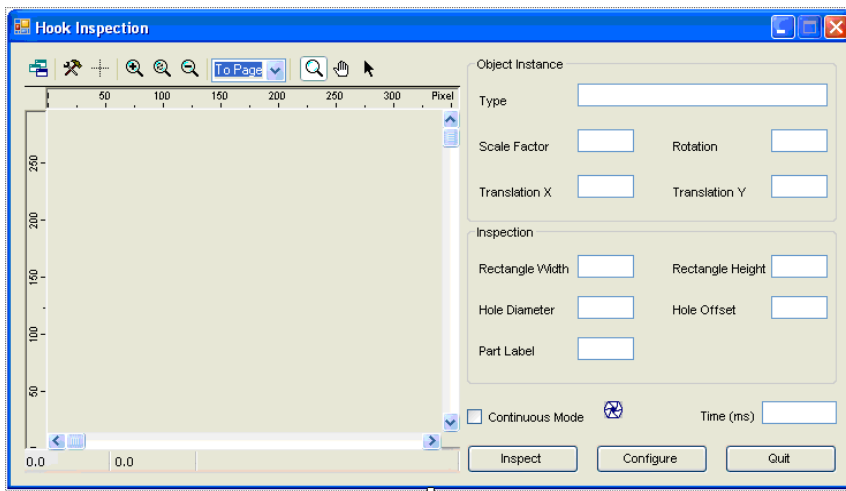

Figure 104 C# Form for Tutorial 5
1. On your application form, add one text box. Name it **LabelText** and add an appropriate label. Set up your form as illustrated in Figure 104.